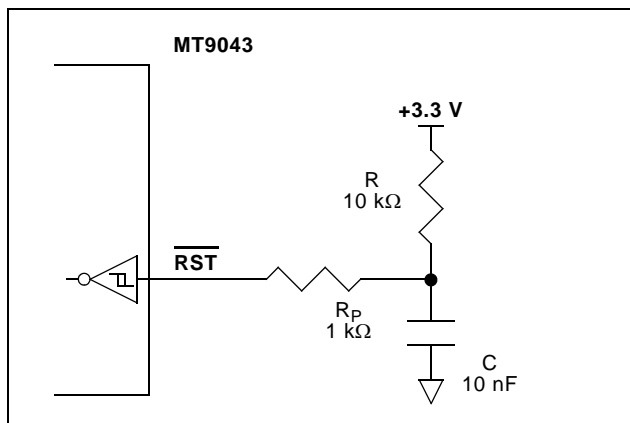

Figure 10 - Power-Up Reset Circuit
A simple power up reset circuit with about a 50 us reset low time is shown in Figure 10. Resistor R_P is for protection only and limits current into the RST pin during power down conditions. The reset low time is not critical but should be greater than 300 ns.
* See Figure 10.